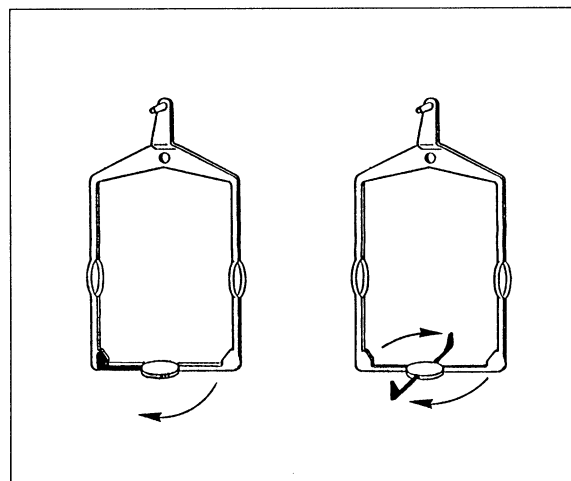

Fig. 3 Opening the stirrups
7. Open the stirrups ► fig. 3 and insert the balance pans.
8. Suspend the stirrups from the lever (between positions (11) and (12) on each side).
9. Slide the balancing rider (1) until the pointer (2) is pointing vertically downwards (to zero). Do not change the position of (1) from now on.